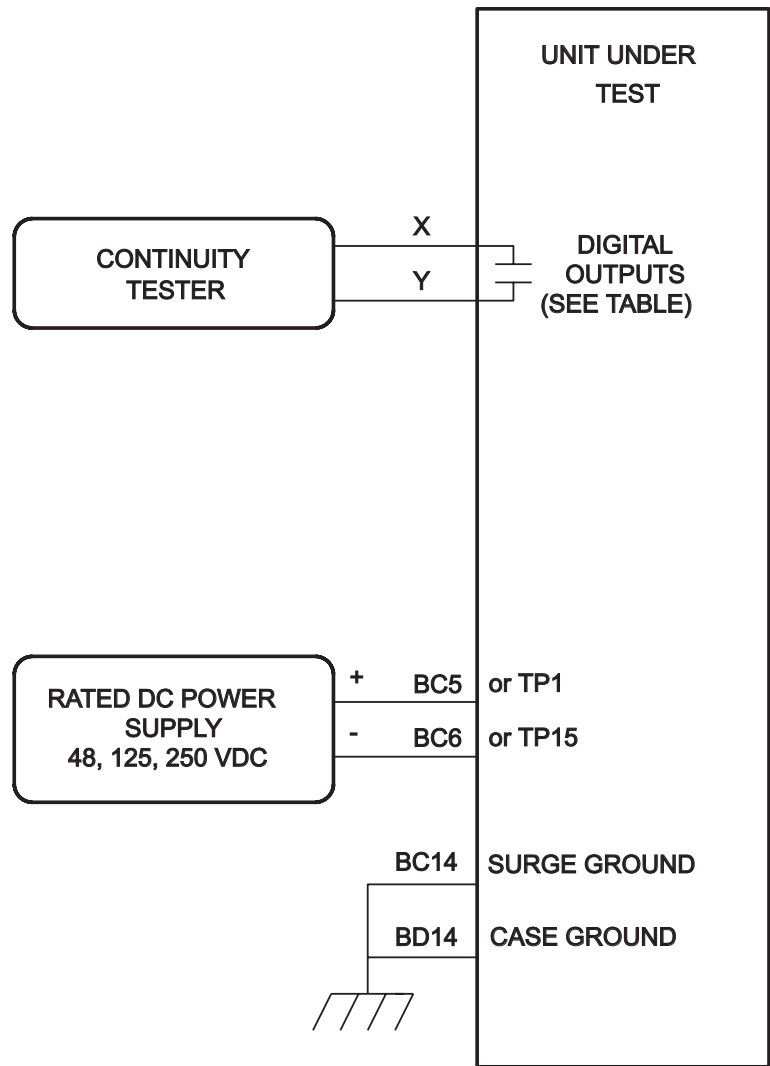

Figure 5–1: DIGITAL OUTPUT TEST CONNECTIONS
1. Connect the relay as shown in Figure 5–1: DIGITAL OUTPUT TEST CONNECTIONS below.
1. Connect the relay as shown in Figure 5–2: CONFIGURABLE INPUT & OUTPUT TEST CONNECTIONS on page 5–16.
1. Connect the relay as shown in Figure 5–3: PHASE-TO-GROUND TEST CONNECTIONS below.
5. Set $I_{op} = 1.0$ amp rms for phases IA, IB, or IC, as shown by the "Y" connection point in Figure 5–3: PHASE-TO-GROUND TEST CONNECTIONS.
1. Connect the relay as shown in Figure 5–3: PHASE-TO-GROUND TEST CONNECTIONS on page 5–18.
3. Slowly increase Iop to 1.2(0.4) amps rms, approximately 0.1(0.01) amp per second. Slowly decrease the current to zero (0) amp. The RC contact should not close.
6. Reduce Iop to Zero (0).